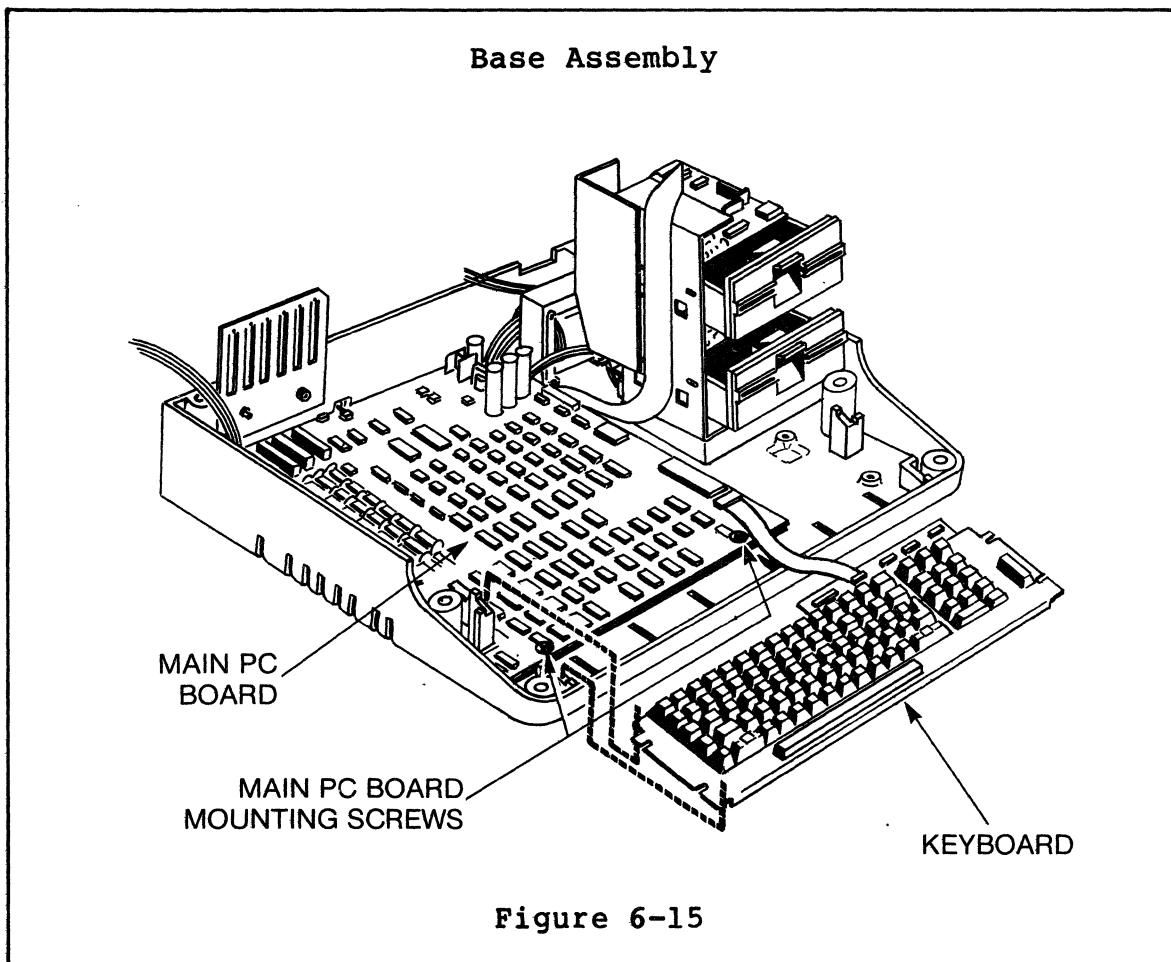

Figure 6-15
- 2) Lift the keyboard out of the Base Assembly and place it in front of the Base Assembly as shown in Figure 6-15.
- 6) Remove the Main PC Board mounting screws. Unscrew the retaining screws located along the front edge of the main PC board (see Figure 6-15).
- 6) Install the two Main PC Board mounting screws at the locations shown in Figure 6-15, and tighten the screws.